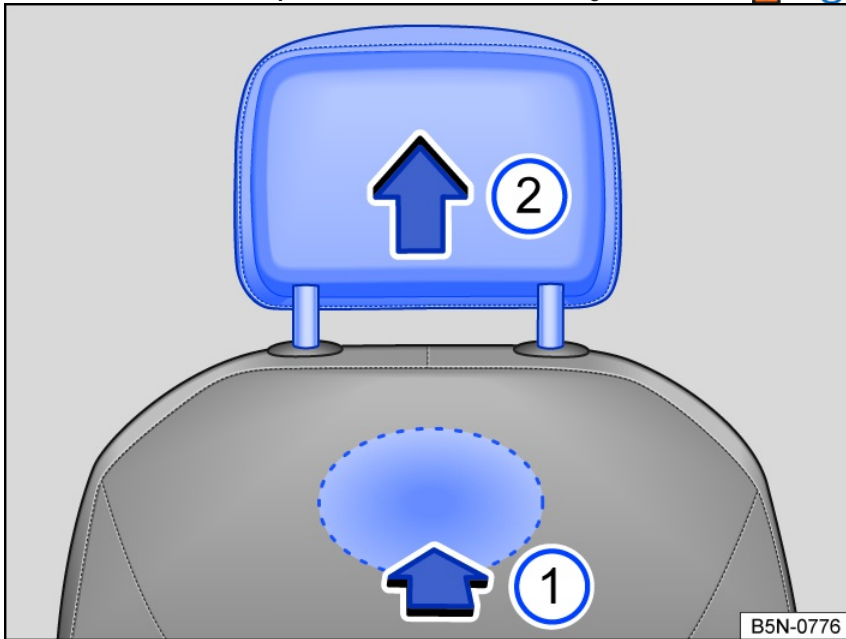

Fig. 88 Front head restraints: removing.
- To release, find the notch on the rear side in the marked area, push inwards in the direction of the arrow *fig. 88* and hold.
- Remove the head restraints in the direction of the arrow *fig. 88*.